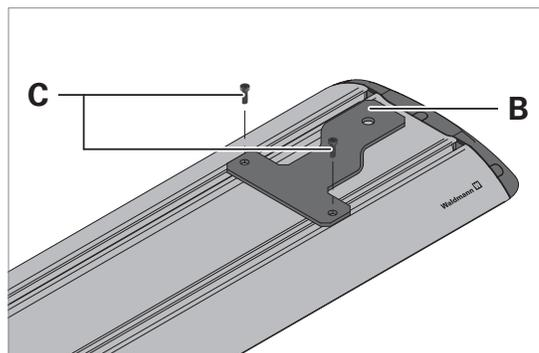
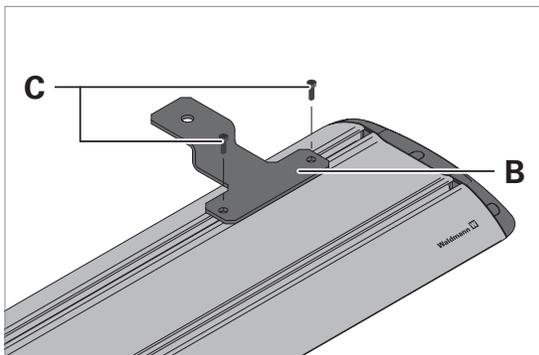

Fig. 6: Mounting the bracket for mounting type "Top, fixed", 1st option.
Fig. 7: Mounting the bracket for mounting type "Top, fixed", 2nd option.
- ▶ Mount the two enclosed brackets **B** on the luminaire using the enclosed screws **C** and the slide nuts and tighten the screws, see Fig. 6 or see Fig. 7.